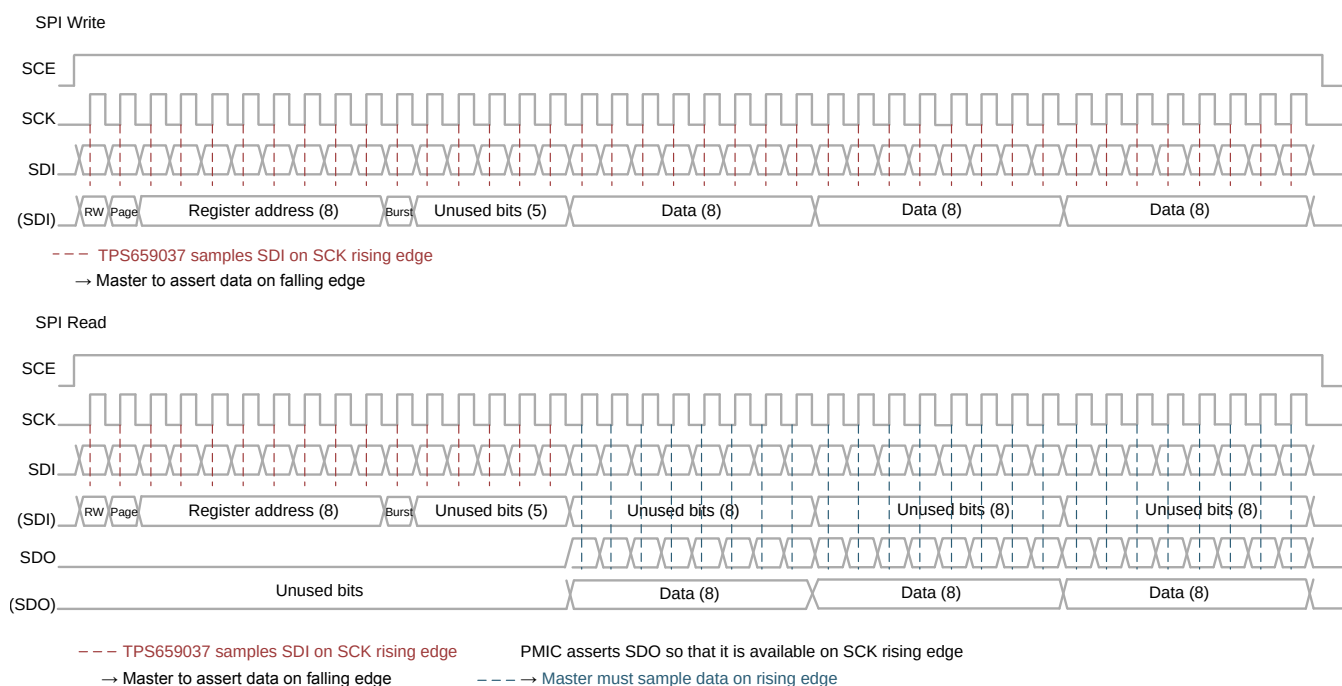

**Figure 5-16. SPI Burst Read and Write Access**
- This consists of fetching and storing several data at contiguous locations. The protocol is depicted in Figure 5-16.